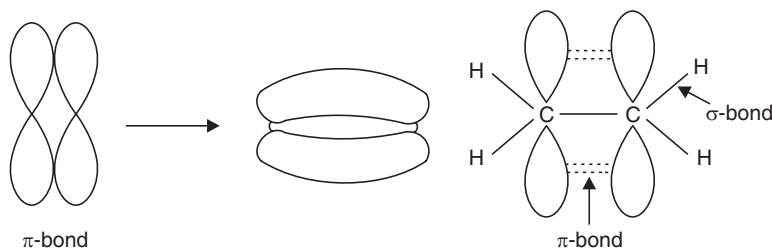

Fig. 2.10 Ethylene molecule.
Lateral overlapping of the two 2p orbitals of two C-atoms leads to the formation of a weak bond known as π-bond (See Fig. 2.10).
- Four sigma bonds are formed due to overlapping of sp2-s orbitals and one out of sp2-sp2 overlapping. Residual 2p orbitals of each sp2 hybridised C-atom overlap laterally to form a π-bond (Fig. 2.10).